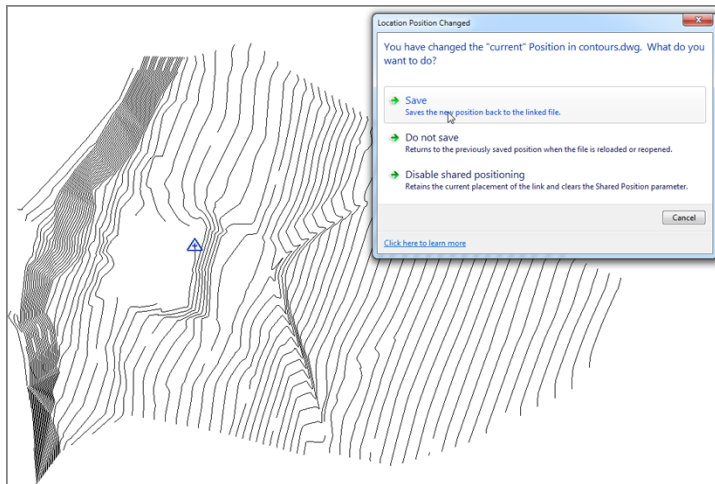

FIGURE 18.33: Saving the shared position back to the drawing
3. Move the site to a position similar to that shown in Figure 18.33.
5. Click Save. Doing so adds a new position in the site DWG file. You're now coordinated with your site people. (See Figure 18.33.)